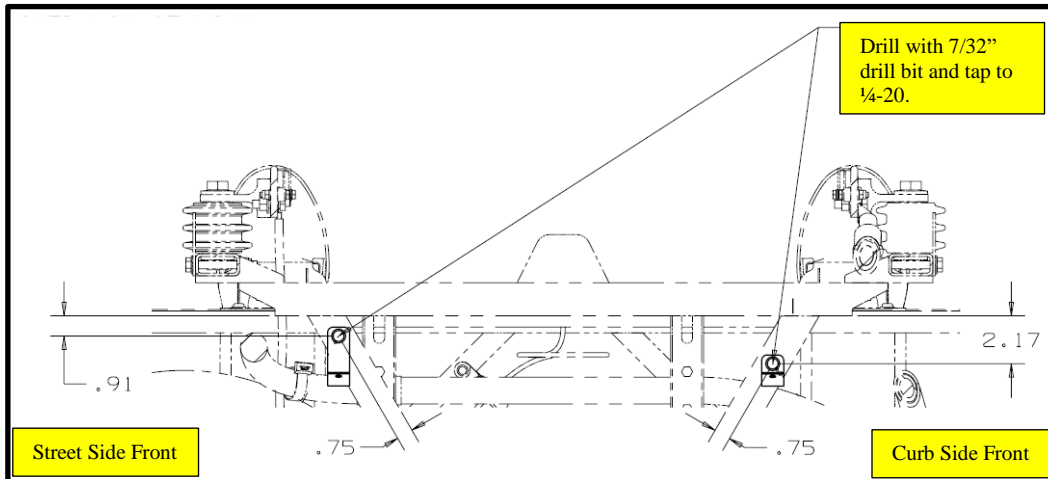

Figure 5: Forward secondary cover bracket hole location reference.
15. Mark and drill two 7/32" holes for the mounting hardware for the forward mounting brackets as shown below. One on the left front .91" down from the bottom edge of the tubing and another on the right side 2.17 inches down. Tap to 1/4-20. See Figure 5.